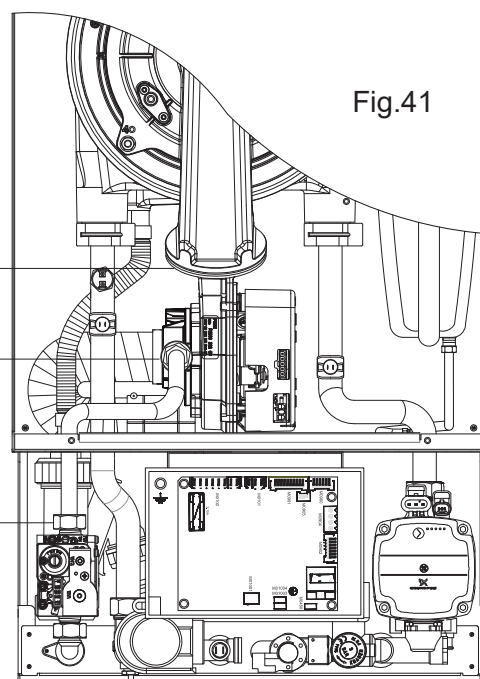

Fig.41
8.4 TO REMOVE/REPLACE FAN (Fig. 41)